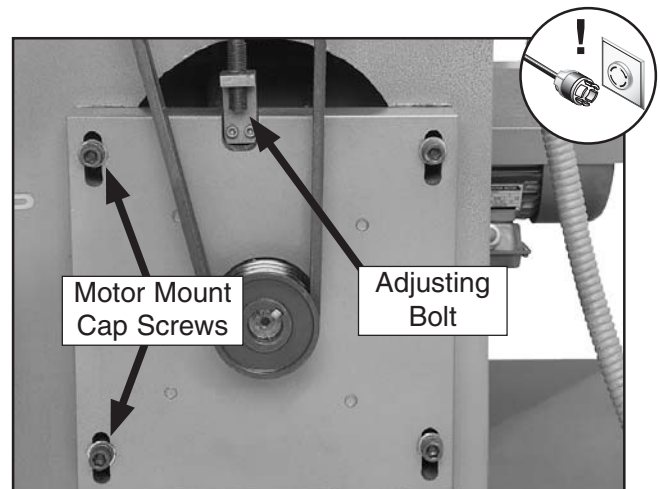

Figure 89. Model G0616 motor mount and fasteners.
3. Use a 10mm hex wrench to loosen the four cap screws of the motor mount (see **Figure 89**).